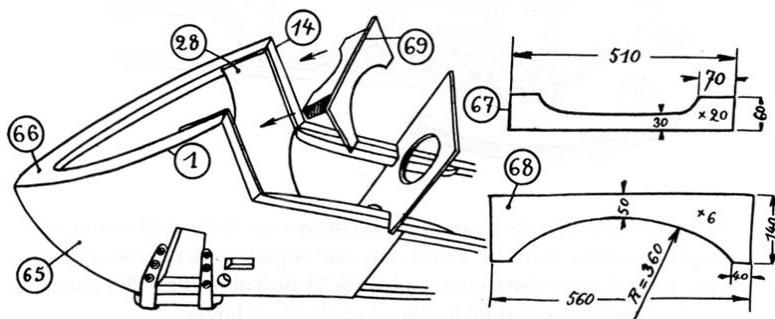

Figure 3.12: Fastening the “lyre” in place
Put the two branches of the lyre together between the plywood sides ① and the plywood panels ⑧ (fig. 3.12). Nail so that the two sides ⑤ meet slightly past point ⑥6. Nail the